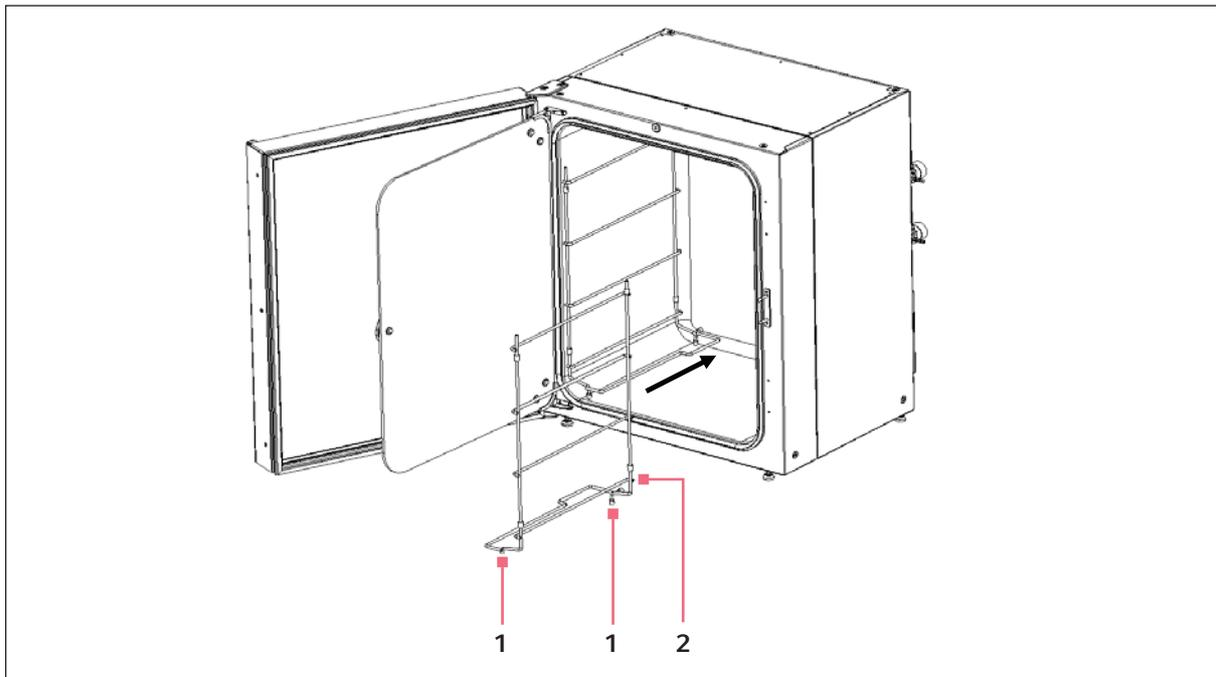

Fig. 4-2: Inserting shelf racks
2. Place two rubber shelf rack feet, and one shelf rack spacer onto each shelf rack (see Fig. 4-2 on p. 25).